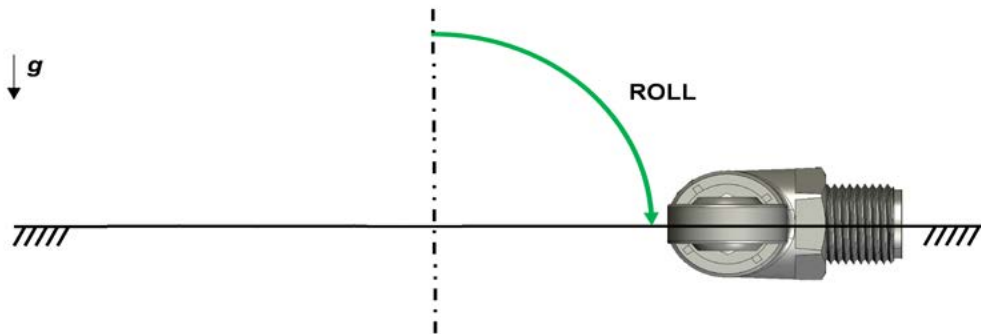

Figure 13. Roll at 90 deg
- **ROLL:** Figure 13 and Trace 3 show the mechanical position of the sensor and PDO2, which contains the associated roll measurement, respectively.